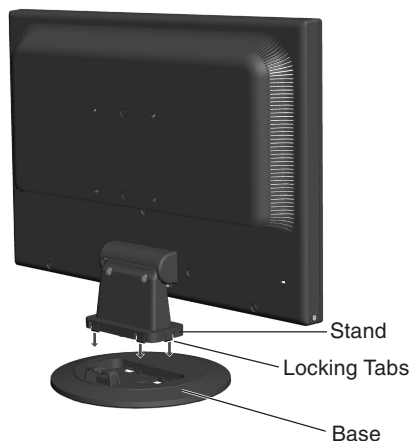

Figure S.1
1. Attach the Base to the Stand. The locking tabs on the Stand should fit into the hole on the Base (**Figure S.1**).